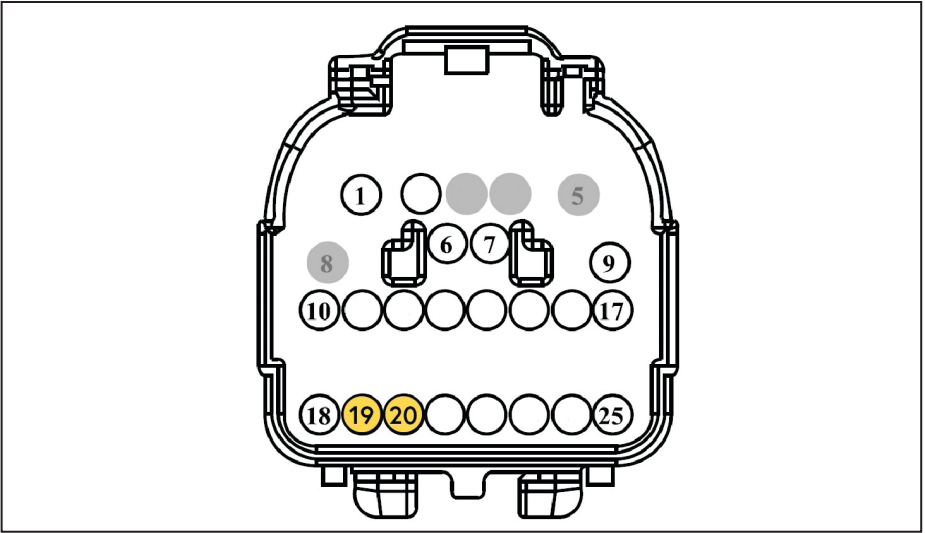

Figure 38 — C264 connector (male)
- Disconnect the C264 connector and locate the green wire with blue stripe at pin 19 (CAN H), and the white wire with green stripe at pin 20 (CAN L) (Figure 38).